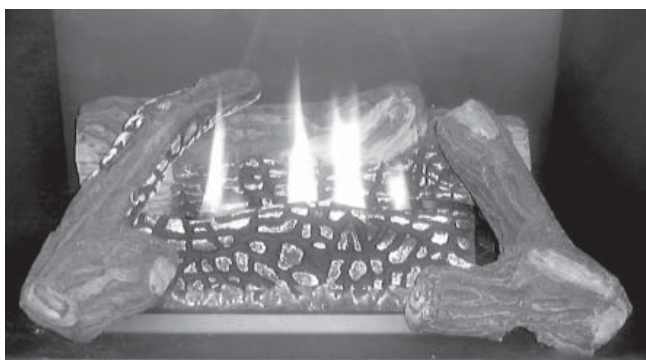

Figure 56
3. Allow the burner to operate for at least 15 minutes while observing the flame continuously to ensure that the proper flame appearance has been achieved (see **Figure 56**). If the following conditions are present, adjust accordingly.